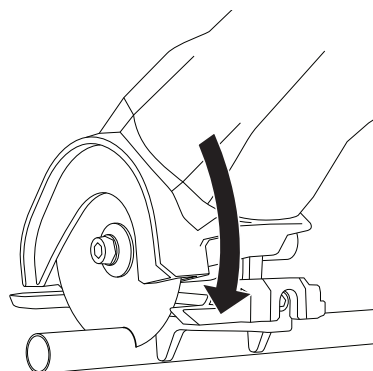

FIG. 23
4. Start tool and cut material in a chopping motion until you are finished making the cut as shown in figure 23.